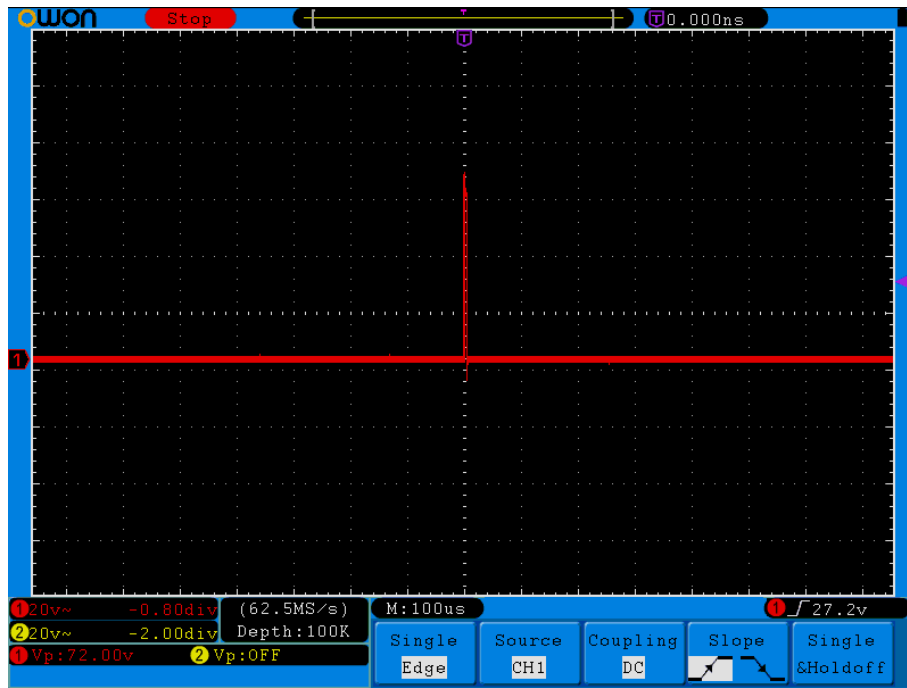

Fig.6-3 Capture the Single Signal
- (5) Press the **F2** button to choose **Peak detect**.
- (6) Press the **Trigger Menu** button to display the Trigger menu.
- (7) Press the **H1** button to display the Trigger Type menu.
- (8) Press the **F1** to choose **Single** as the type.
- (9) Turn the **M** knob to choose **Edge** as the mode.
- (10) Press the **H2** button to display the **Source** menu.
- (11) Press the **F1** button to choose **CH1** as the source.
- (12) Press the **H3** button to display the Coupling menu; press the **F2** button to choose **DC** as the Coupling.
- (13) Press the **H4** button to choose  (rising) as the Slope.
- (14) Rotate the **TRIG LEVEL** knob and adjust the trigger level to the mid-value of the signal to be measured.
- (15) If the **Trigger State Indicator** at the top of the screen does not indicate **Ready**, push down the **Run/Stop** button and start acquiring, waiting the emergence of the signal in conformity with the trigger conditions. If a signal reaches to the set trigger level, one sampling will be made and then displayed in the screen. With this function, any random occurrence can be captured easily. Taking the burst burr of larger amplitude for example, set the trigger level to the value just greater than the normal signal level, and then presses the **Run/Stop** button and waits. When there is a burr occurring, the instrument will trigger automatically and record the waveform generated during the period around the trigger time. With the **HORIZONTAL POSITION** knob in the horizontal control area in the panel rotated, you can change the horizontal position of the trigger position to obtain the negative delay, making an easy observation of the waveform before the burr occurs (see **Fig.6-3**).